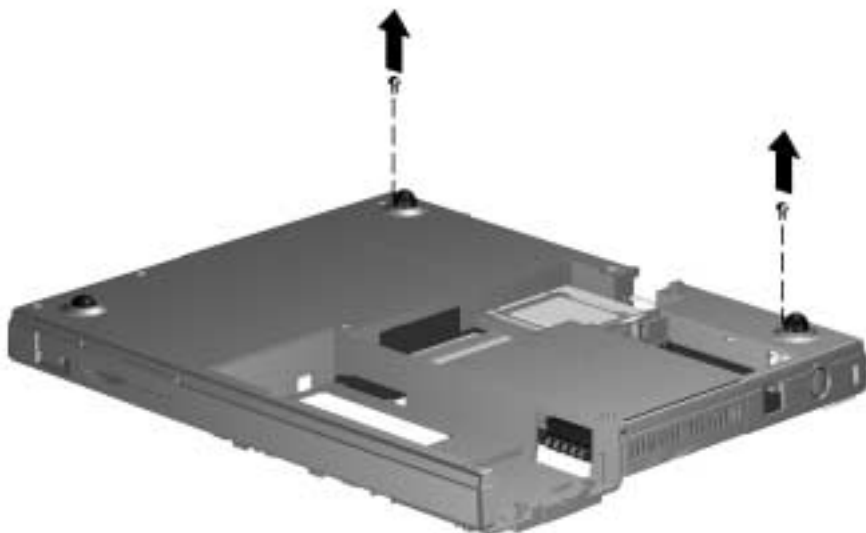

Figure 5-31. Removing the System Board Screws
3. Remove the two screws securing the system board to the base assembly (Figure 5-31).